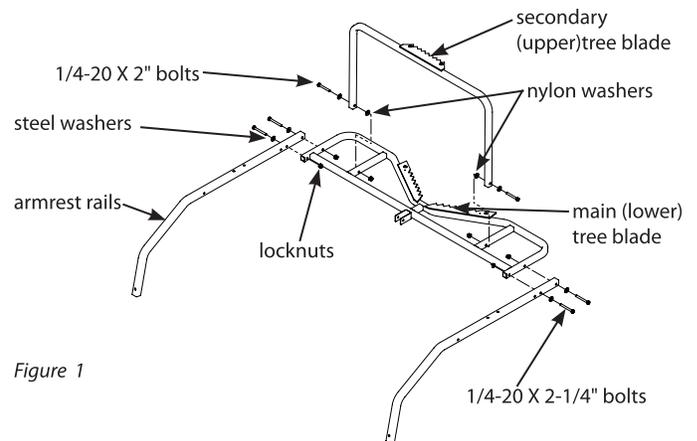

Figure 1
1. Attach the secondary (upper) tree blade weldment (14127) to the main (lower) tree blade weldment (14124) using (2) provided 1/4-20 x 2" bolts, locknuts, steel washers and nylon washers. **SEE FIGURE 1. DO NOT tighten all nut and bolt assemblies completely!**
2. Attach the armrest rails (14122) to the main (lower) tree blade weldment using (4) provided 1/4-20 x 2-1/4" bolts, locknuts and steel washers. **SEE FIGURE 1.**